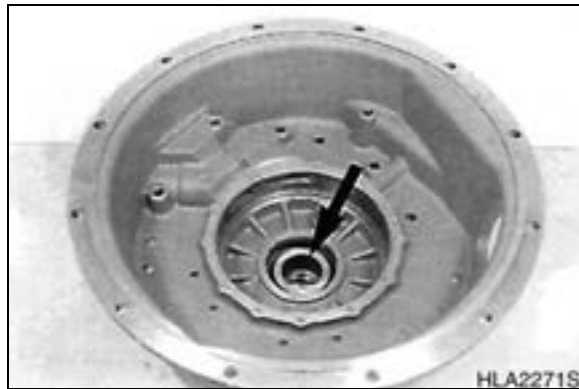

Figure 321
2. Install spur gear (Figure 321) starting from side, with long collar showing, and position it.